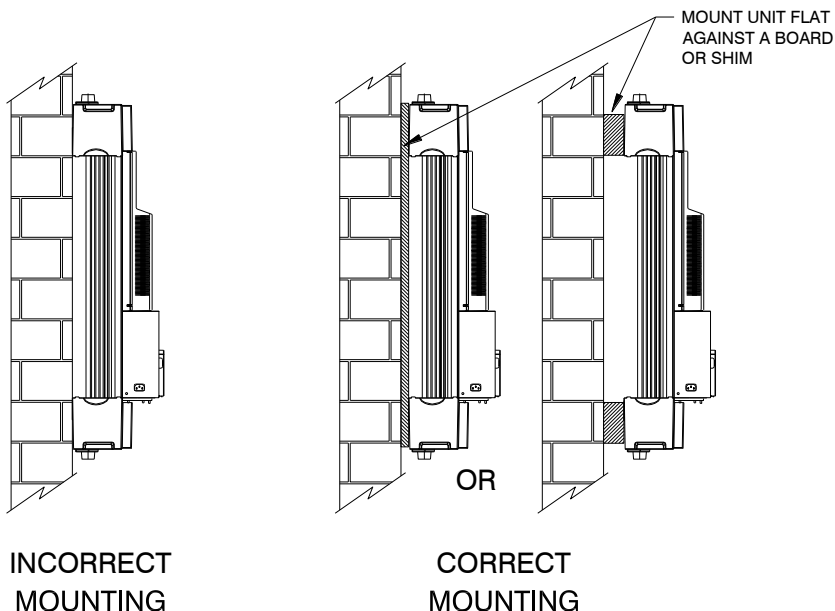

Figure 1E
Step 2: The Hallett has keyhole slots for convenient mounting – use all four mounts. **Do not mount the unit directly to an outside wall; mount on plywood or shims – See Figure 1E.** Remove the top and bottom covers of the unit to make the mounting holes accessible.